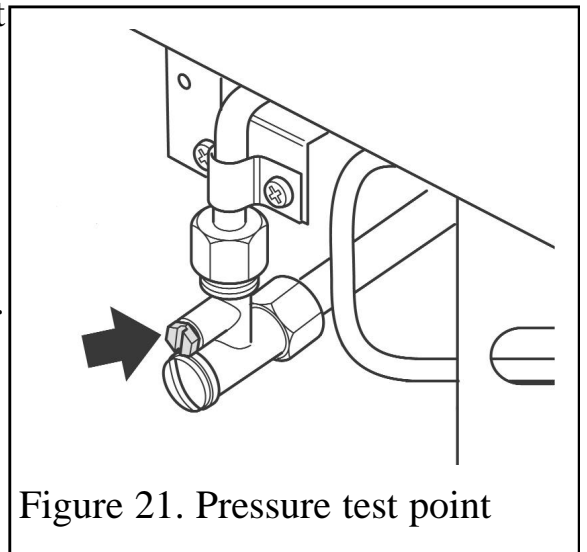

Figure 21. Pressure test point
1. Check the inlet pressure by fitting a pressure gauge at the test point. The test point is on the inlet 'T' connector (See figure 21). Check the pressure with the appliance alight and set at maximum output.